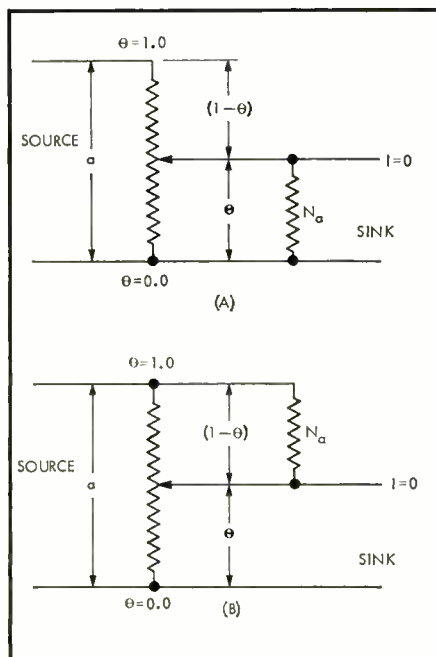
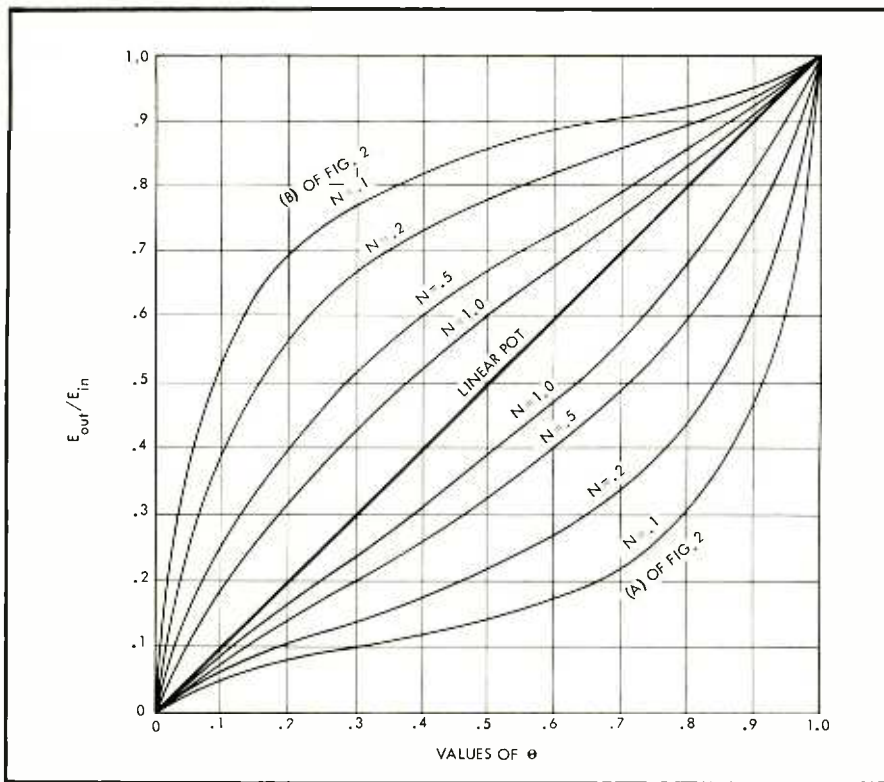

Fig. 2. Potentiometers shunted by fixed resistors.
Fig. 3. Characteristics of shunted potentiometers for configurations (A) and (B) of Fig. 2.
In *Fig. 2* the legend should read
Also in *Fig. 2* the two phase inverters to the left in the diagram should be designated P and not R. And the output signal from the top left phase inverter should be $(1+k)(R-L)$ and not $(L-R)$. Finally, in Table II, the top value of $(R-kL)$ should read $B-C$ and not $B+C$.
By connecting a fixed resistor from the moving arm of the pot to one side, its characteristic is altered. There are two cases of this connection, shown in Fig. 2 as (A) and (B). In both cases, the shunt resistor is designated relative to the resistance of the potentiometer as Na , N being any finite factor. Note that in both cases, the resistance across the load varies with the potentiometer adjustment.
which is the working formula for (A), Fig. 2. Note that this formula applies,
Derivation of the formula for (B) of Fig. 2 is similar. Resistance across the source is:
Resistance across sink, by inspection, Fig. 2 (B), is:
which is the working formula for case (B) of Fig. 2. Note again that this formula applies, within the stated limitations, for all finite values of a and N .
Characteristics of shunted potentiometers, for various value of N , for both cases, are plotted in Fig. 3. These curves will give an immediate indication of the configuration required for a given circuit situation, and an approximate value of N for most instances. Exact value of N is determined by substitution in the applicable formula.
This is best shown by a practical example. In a given circuit, it is required that the ratio E_{out}/E_{in} be 10 percent at 50 percent rotation of the control. Reference to Fig. 3. shows immediately that configuration (A) of Fig. 2 is applicable, and that the value of N will be somewhat smaller than 0.1.